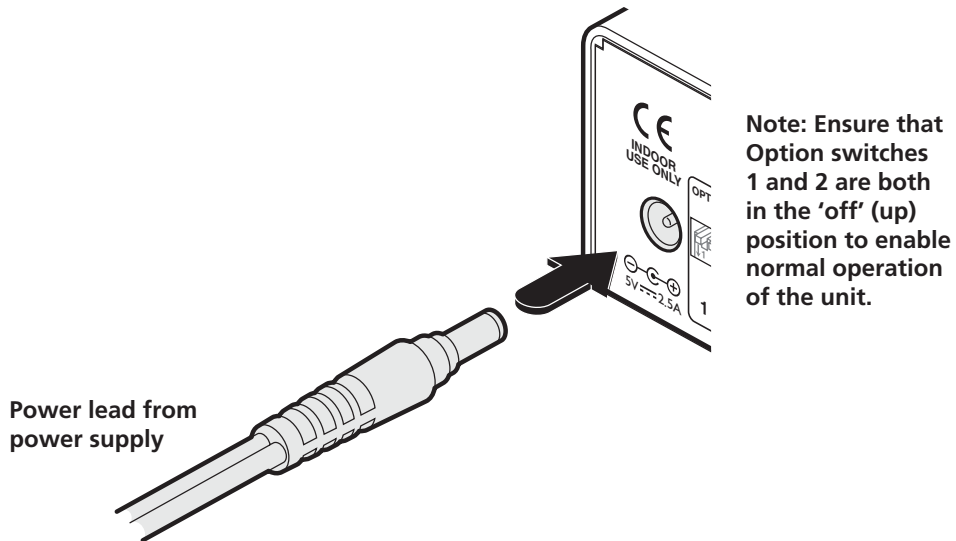

Figure 3-19. Connect the power supply to the rear panel power socket.
- 1 Attach the output lead from the supplied power adapter to the 5V socket on the rear panel of the unit. See Figure 3-19.